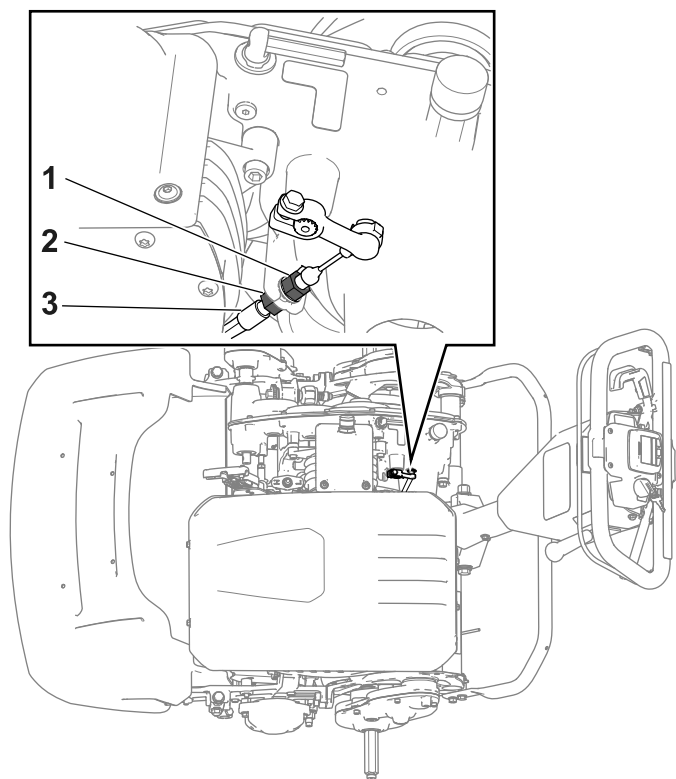

Figure 30
- To increase the cable tension, loosen the front-cable jam nut and tighten the rear jam nut (Figure 30). Repeat step 2 and adjust the tension if necessary.
nut (Figure 30). Repeat step 2 and adjust the tension if necessary.